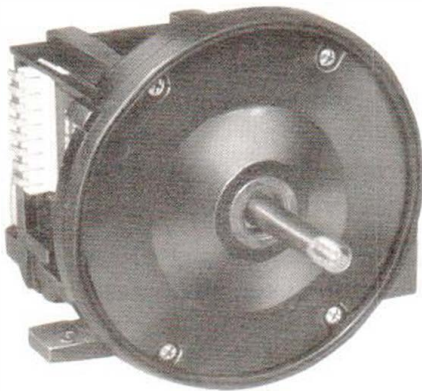

Figure 32. Bearing Plate Assembly Removal
C. Remove four bearing plate screws and nuts from motor unit assembly. *See Figure 32.*